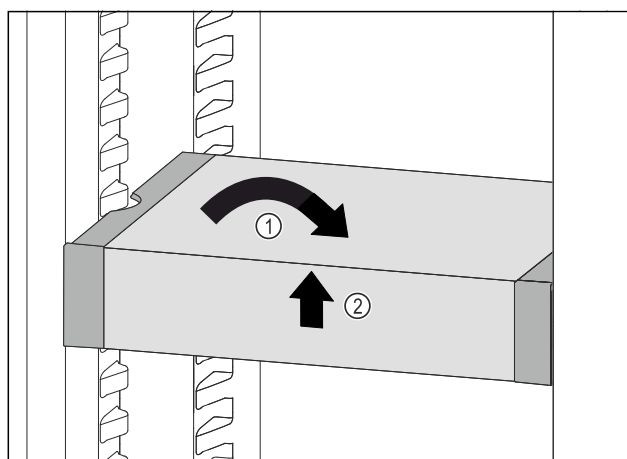

Fig. 143
- Set VarioSafe straight. Fig. 143 (1)
- Lift VarioSafe at the front. Fig. 143 (2)